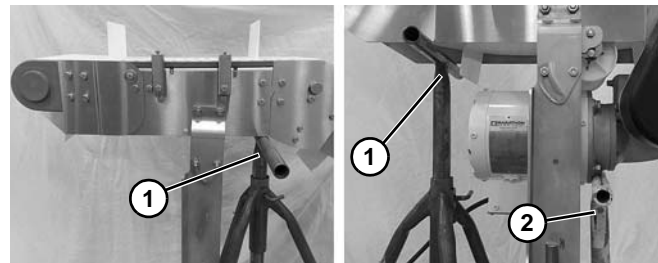

Figure 16
1. Place temporary support stands (Figure 16, item 1) at both ends of the conveyor. Place an additional support stand (Figure 16, item 2) under the drive motor, if equipped. See WARNING.